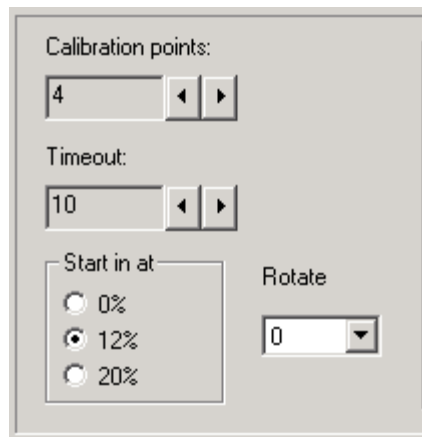

Figure 9: Exploded view of part of Figure 8 showing calibration points
3. Make sure that the number of calibration points is set at 4. If the number of calibration points showing in the dialog box is not set at 4 (the default is 2), use the arrow buttons to change to four-point calibration (Figure 9).